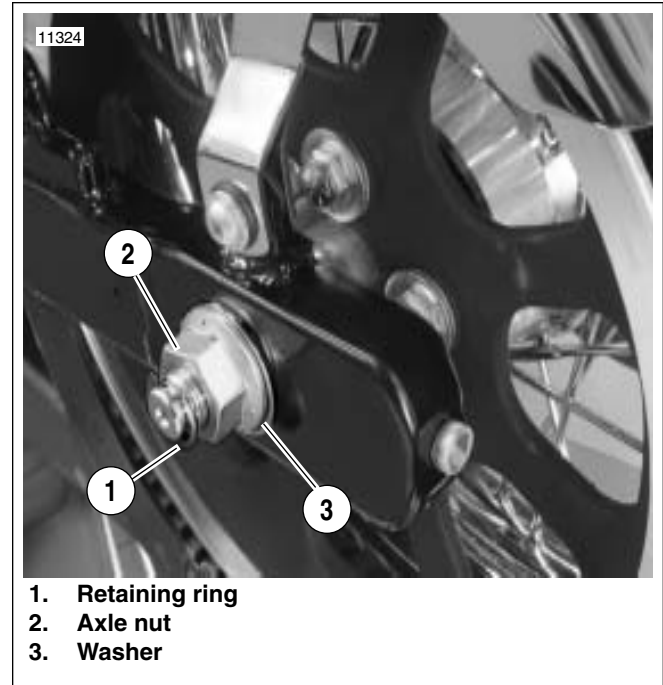

Figure 2-10. Rear Axle
4. See Figure 2-10. Remove retaining ring (1), axle nut (2), and washer (3) from left side of axle.